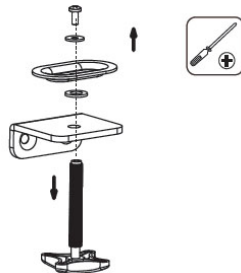

Figure 4
2. Remove the support plate from the clamp screw using a phillips screwdriver, then remove the clamp screw from the lower desk clamp, see Figure 4.